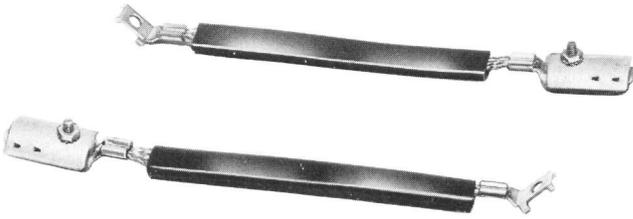

Fig. 4—Bond Strap Assembly
2.07 Figure 4 shows a bond strap assembly (Comecode No. 842353070) which is available for rehabilitation applications (see Section 644-203-101).